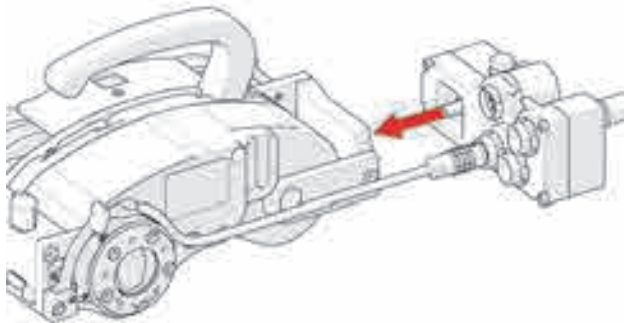

Figure 4-10 Align with drive module mount
2. Align the umbilical to the umbilical mount of the drive module (see Figure 4-10 on page 99).